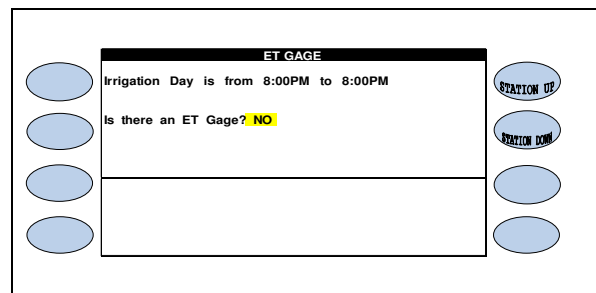

Figure 4
- Press the blue **ARROW** keys to move the cursor to the **IS THERE AN ET GAGE?** (Figure 4).